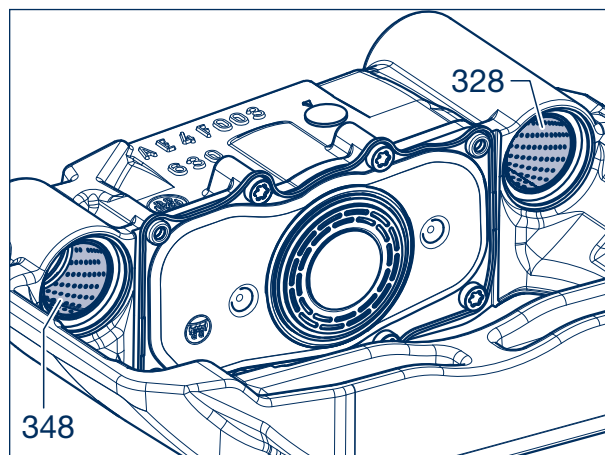

Figure 4
- [10] Connect the extraction tool (T4) and insert it into the guide bush (348, see figures 4 and 5).
- [12] Turn the threaded spindle (T1) to pull the guide bush (348) out of the bearing. If necessary, brace the nut (T6) with an AF 32 spanner.